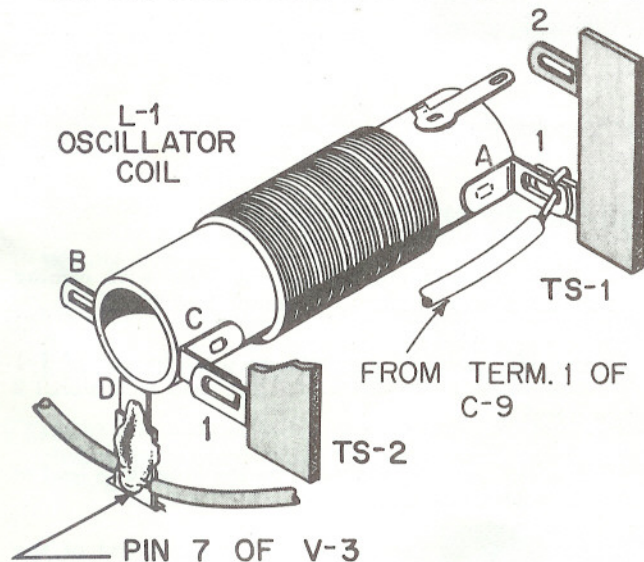

FIGURE 7. MOUNTING THE OSCILLATOR COIL
- ☐ With your pliers, bend the coil terminals as shown in Figure 7.